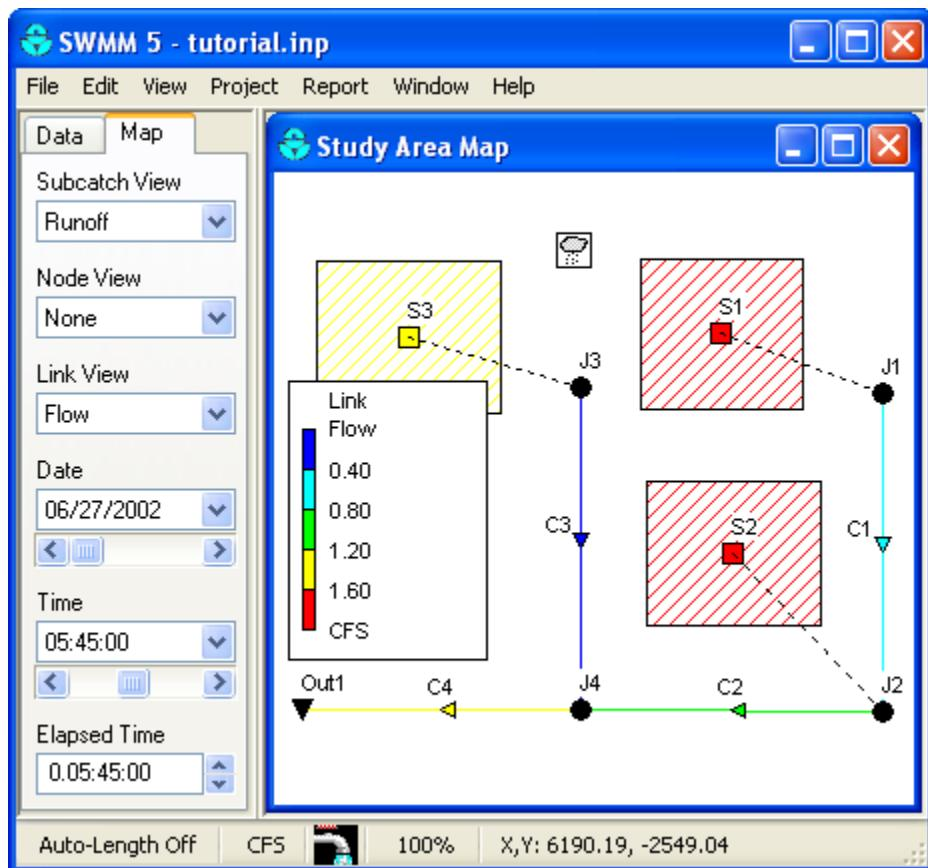

Figure 2-12. Example of viewing color-coded results on the Study Area Map.
2. Select the variables to view for Subcatchments, Nodes, and Links from the dropdown combo boxes labeled Subcatch View, Node View, and Link View, respectively. In Figure 2-12, subcatchment runoff and link flow have been selected for viewing.
6. The Date / Time / Elapsed Time controls on the Map Browser can be used to move through the simulation results in time. Figure 2-12 depicts results at 5 hours and 45 minutes into the simulation.